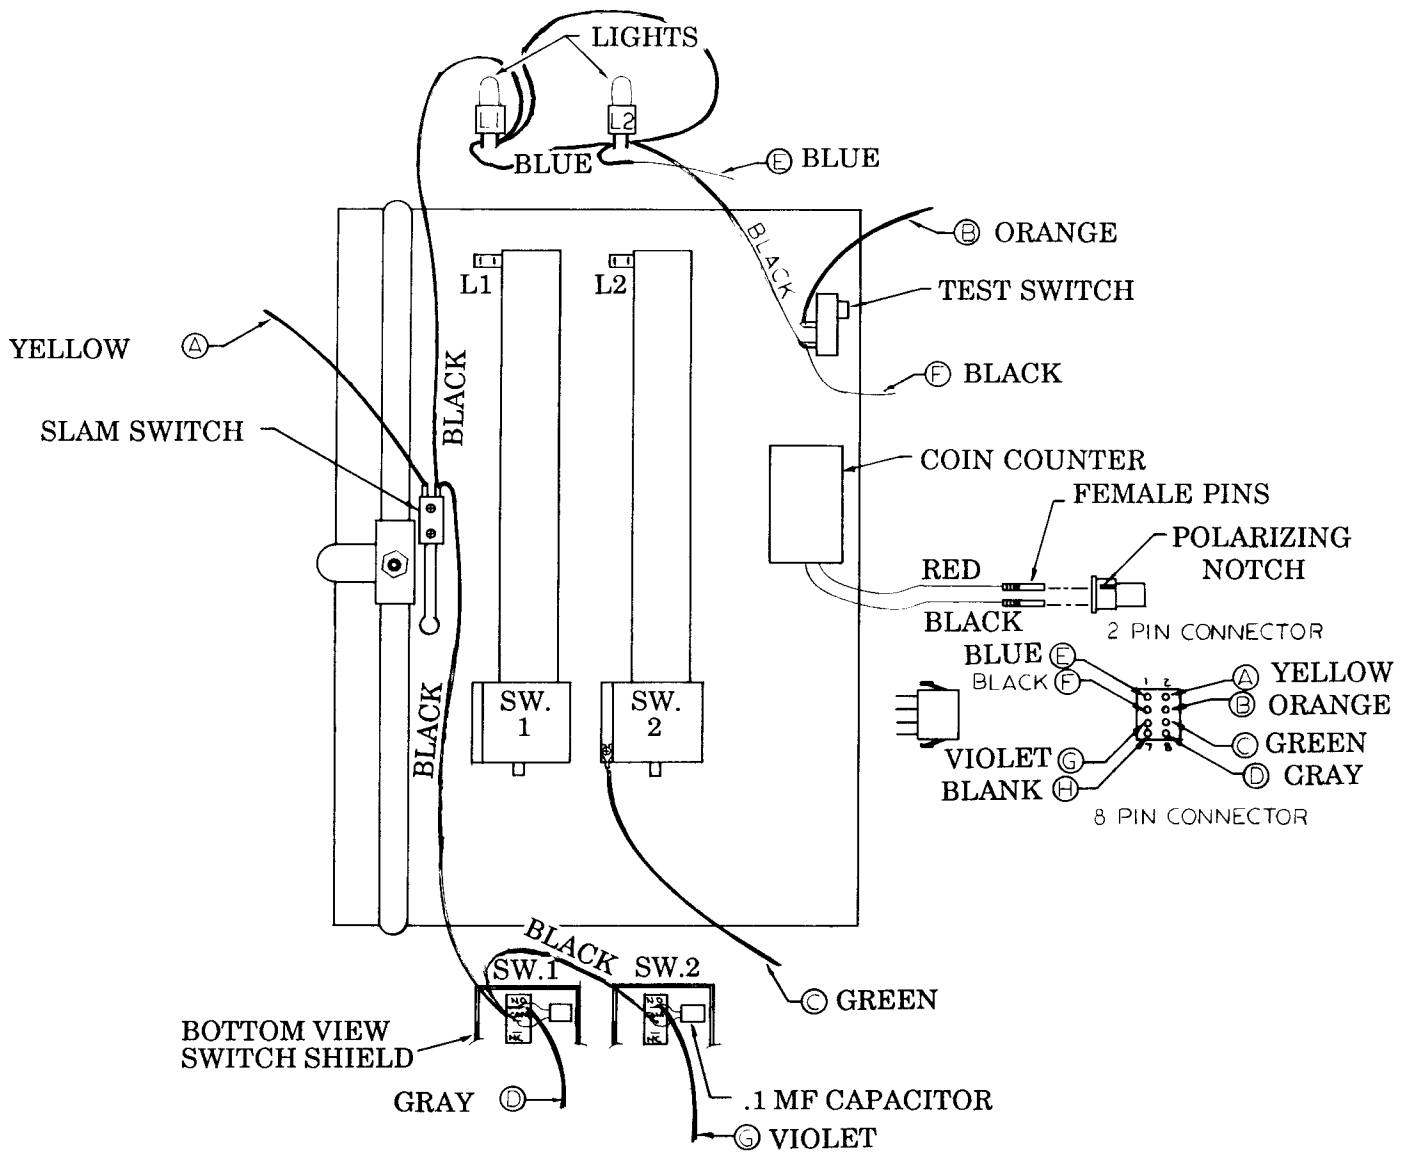

FIGURE 1
The orange wire (B) is soldered to the test switch. The black wire (F) is soldered to the other terminal on the test switch. A black wire must be jumped from the test switch, to one side of each light, the slam switch and then to the center terminal of the coin switches as shown in Figure 1.
The blue wire (E) goes to the lamp closest to the test switch. Run an additional blue jumper to the other lamp. (See Figure 1)